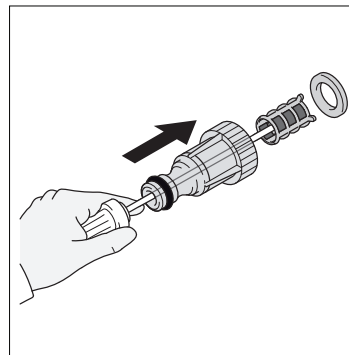

Fig. 24
- The screen inside the clear adapter should be cleaned periodically. Insert a pen or pencil in small hole at the end of the adapter. The screen filter will slide out (**Fig. 24**). Rinse it with clean water, and then place it back in the adapter. Keep the nozzle cleaning wire that is taped to this manual, to unclog the nozzle on the lance. If you lose the cleaning wire an unbent paper clip will work.